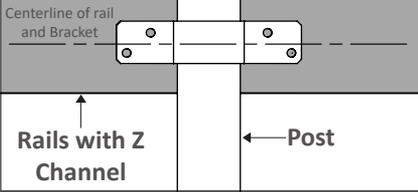

Fig. 21
2. Use #14 1/4" X 1-1/4" [6mm x 32mm] Hex Head Self-drilling Screws to fasten the Rail with Z Channel onto the bracket and post. As shown in Fig. 21.